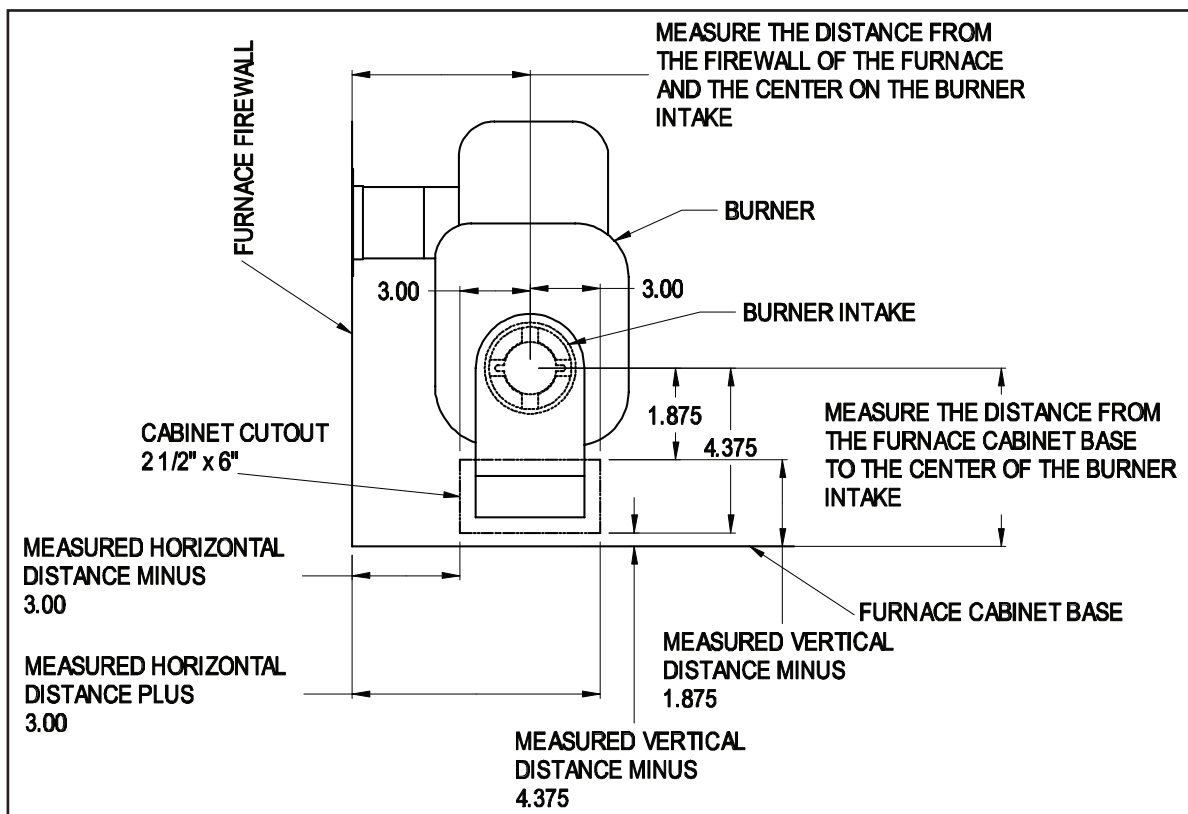

Figure 1
1. Before the Furnace Boot™ can be mounted, a rectangular hole (2 1/2" X 6") must be located and cut into the side of the furnace cabinet. The hole is located from the center of the burner intake. (See Figure 1)